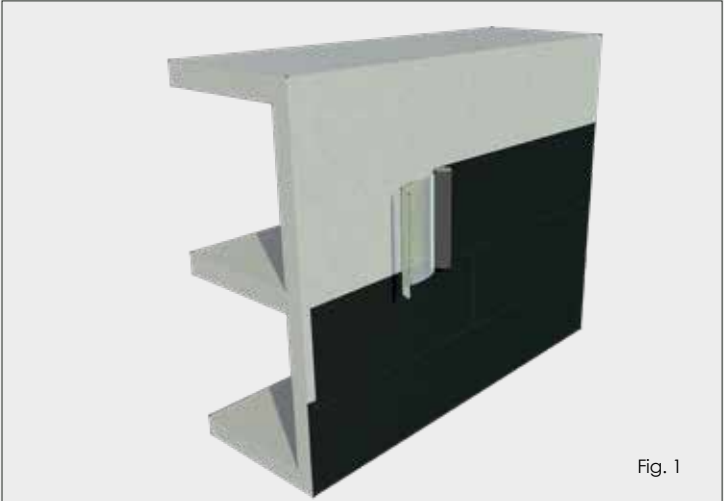

Fig. 1
4. Starting at corner, peel back release paper by approx 150mm. (Fig.1)